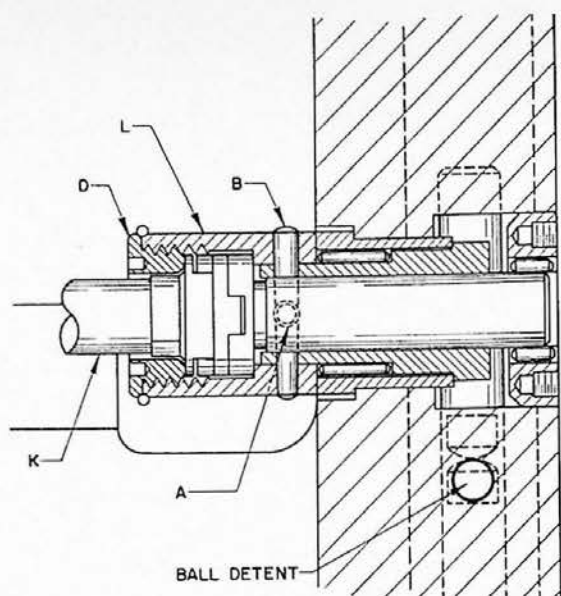

FIGURE 22A
### To Adjust Relationship Between Feed Trip Plunger and Control Plunger (Plain and Vertical Machines) (See Figures 22A, 22B and pages 118, 152)
5. Set feed control trip lever in neutral and loosen screw A (Figure 22A) in coupling sleeve L. Set feed control trip lever into a rapid traverse right or left position. Slowly slide the left table reverse dog into contact with feed trip plunger so wing of plunger is resting on lead edge of reverse dog shelf. Retighten screw A in coupling sleeve. Make certain that feed trip plunger -- if new -- has vertical clearance under left hand reverse dog on table.